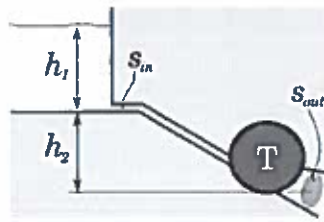

Figure Q5.2- Diagram of the dam.
c) A micro hydraulic generation system consists of an upper water reservoir that feeds a penstock that goes to a turbine that generates power (see Figure Q5.2). The characteristics of the system and its operating point are summarised in Table Q5.1.